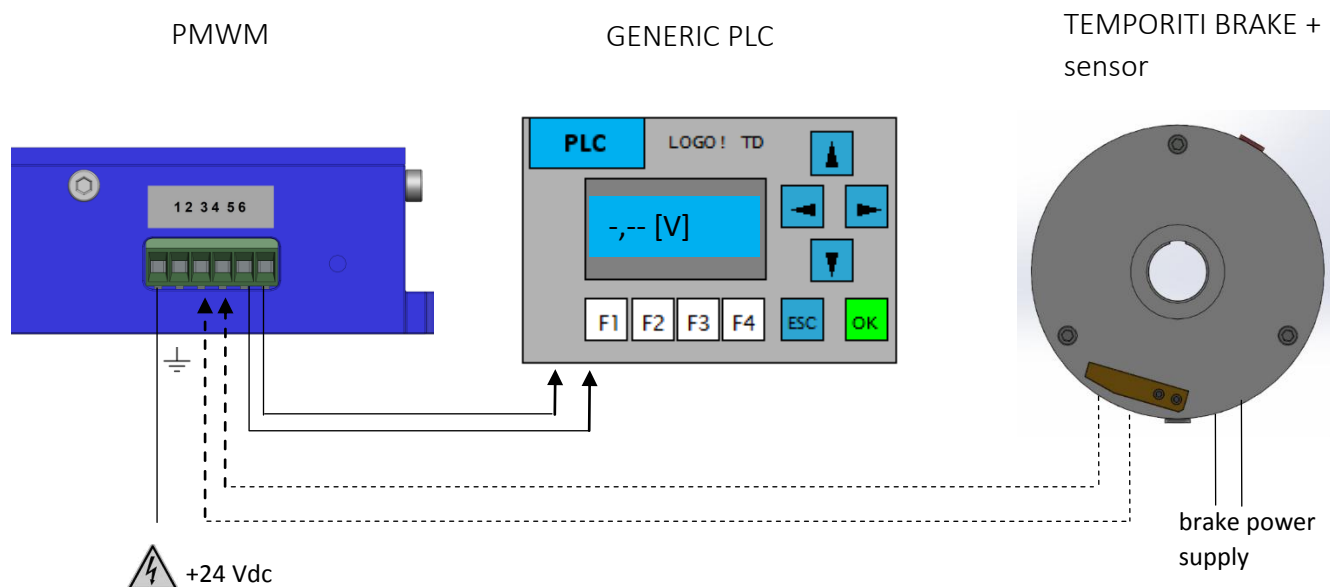

Fig. 1: Electrical connection
-  The maximum output signal cable length (cable 8 – 9, Fig. 1) is 10mt.